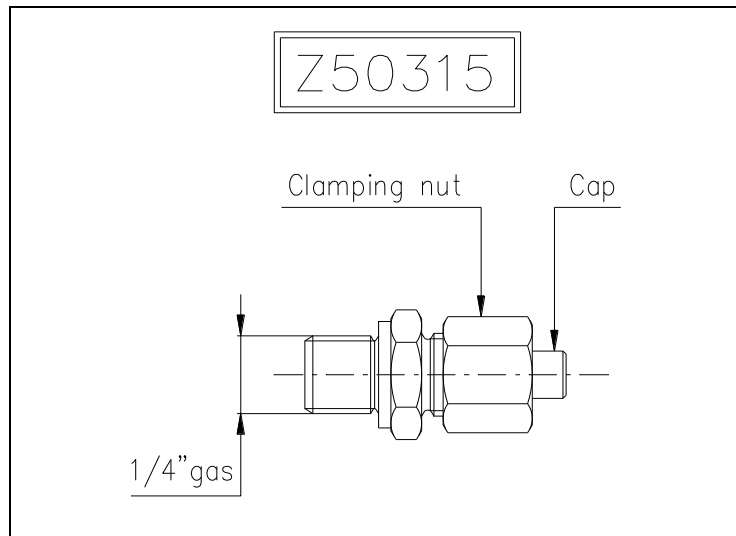

Figure 2
3. The brake, which can be powered both axially and radially, comes complete with a bleeding device cod. Z50315 (Photo 1). To bleed air out of the circuit, loosen the retaining nut of the fitting (Photo 2) and pull the tubular cap outward. After bleeding off the air tighten the fitting again (Figure 2).